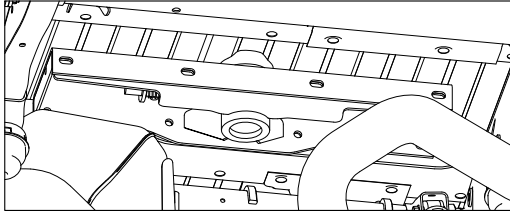

FIGURE B6: View of Truck Bed looking towards front of truck.
- 2B. Stage center section.** Raise the center section into place as shown in figure B6, staging it for installation. When staged correctly, the receiver socket will be "offset" toward the rear of the truck. It may be helpful to pull down on the exhaust while positioning to allow extra room for maneuvering it into position.